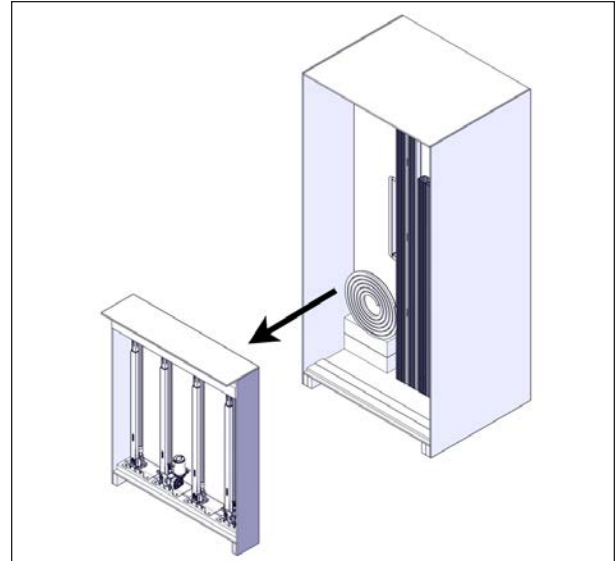

FIGURE 22: JACK BOX REMOVAL
11. With the help of another person, remove the jack box from the crate and keep it in a safe location, see Figure 22.